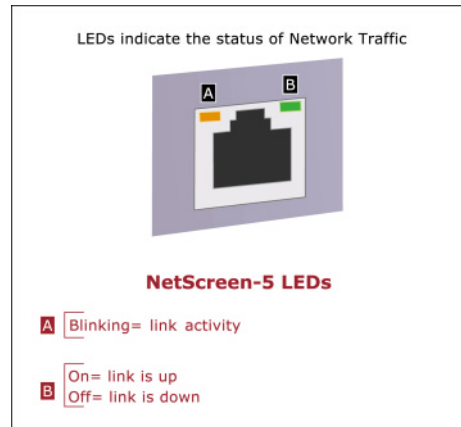

Figure 1-2 The NetScreen-5 Ethernet LEDs
- **Trusted and Untrusted Ethernet LEDs:** Each Ethernet port has two link lights or LEDs, as shown in Figure 1-2. If the right LED is glowing, the link is successful. If the left LED is blinking, there is network traffic activity.